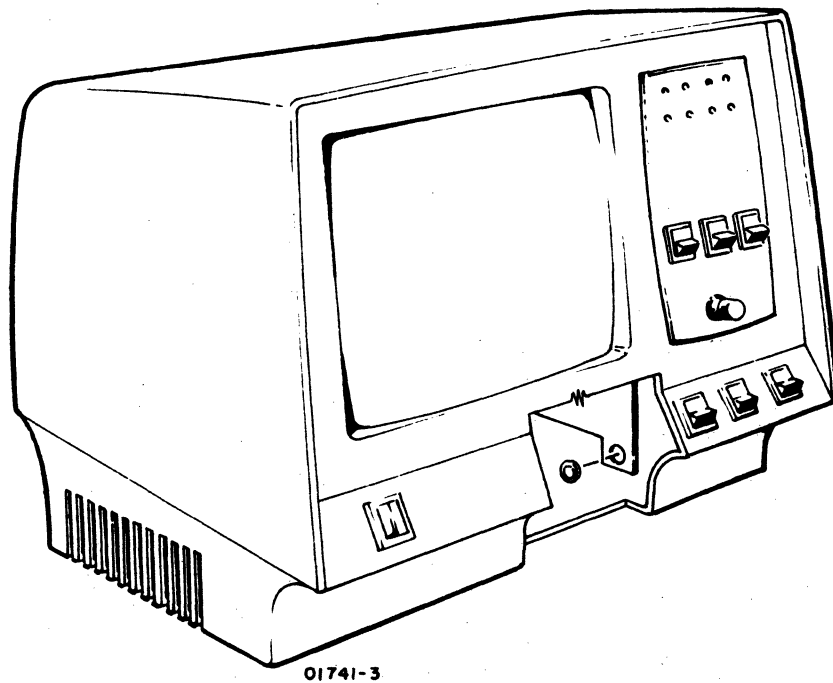

Figure CRT53. Location of Vertically Mounted Sonalert Alarm
This procedure is repeated in parts CRT29A and CRT29B to accommodate the two versions of audible alarms in the field. Procedure CRT29A describes how to service the alarm types that are mounted horizontally on the cabinet base of the monitor (in early version) figure CRT52. Procedure CRT29B covers the alarms that are mounted vertically on the side of the logic module card cage (in later version) figure CRT53.
- 3) Remove video module by following steps 1 through 7 in procedure CRT12. After removal of video module, locate Sonalert alarm on logic chassis assembly. The Sonalert is mounted to the lower vertical portion of the logic chassis side frame. See figure CRT53.